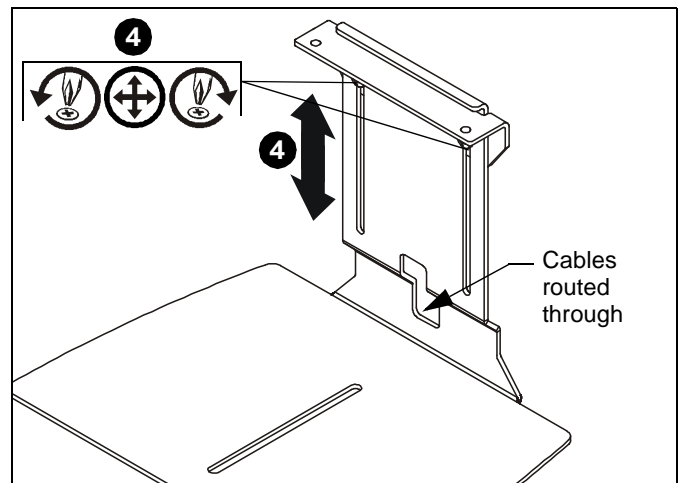

Figure 4
4. Adjust shelf height, as necessary by loosening two Phillips head screws, raising or lowering shelf as required, and tightening screws. (See Figure 4)
5. Cables may be routed through the opening in the back of the assembly, and routed upward behind the shelf assembly. (See Figure 4)